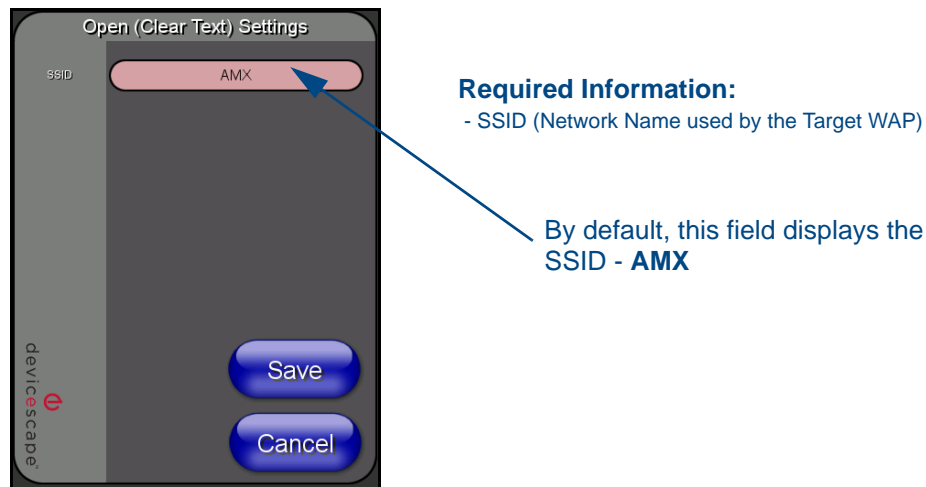

FIG. 30 Wireless Settings page - Open (Clear Text) security method
3. From within the Wireless Security section, press the **Open (Clear Text)** button to open the Open (Clear Text) Settings dialog (FIG. 30). An Open security method does not utilize any encryption methodology but does require that an SSID (alpha-numeric) be entered. Using this method causes network packets to be sent out as unencrypted text.
4. Press the red *SSID* field (FIG. 30) to display an on-screen *Network Name (SSID)* keyboard.
7. From the Open (Clear Text) Settings page (FIG. 30), press the **Save** button to incorporate your new information into the panel and begin the communication process.